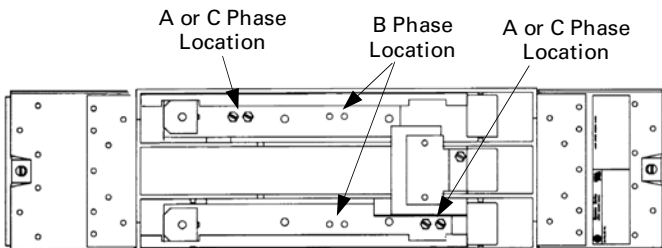

Figure 1. Bus clip locations on the breaker module.
**1. Phase balancing for two-pole devices on three-phase systems.** Reposition the bus clip assembly from A or C phase to B phase as shown in Figures 1 and 2. Remove the screws and the bus clip assembly. Move the bus clip to the B phase location. Fasten the bus clip assembly with the screws tightened to 27–32 in-lb.